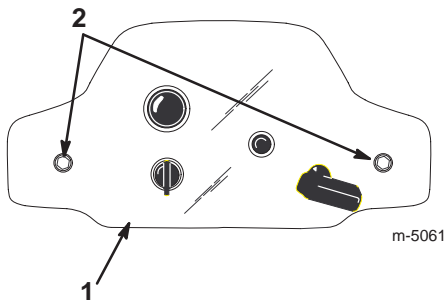

Figure 17
- Remove the two mounting screws that secure the control panel to the housing (Fig. 17).